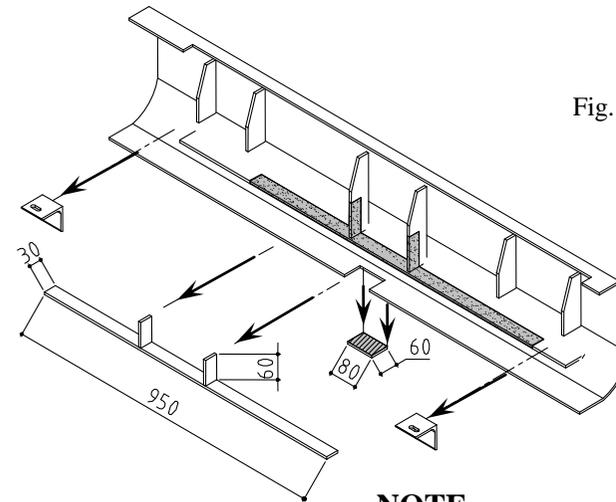

Fig. 2
2. Angle bar I (pos. 6) put underneath to left chassis member and fix loosely using bolts M12x1,25x35mm (pos. 10), next to inside of the chassis member put left bracket (pos. 5) and fix by one bolt M12x1,25x35mm (pos. 10) and two bolts M10x35mm (pos. 9) with angle bar (pos. 6)- loosely.
3. Angle bar II (pos. 7) put underneath to right chassis member and fix loosely using bolt M12x1,25x35mm (pos. 10), next to inside of the chassis member put right bracket (pos. 4) and fix by one bolt M12x1,25x35mm (pos. 10) and two bolts M10x35mm (pos. 9).
4. Between installed brackets put main bar of the towing hitch (pos. 1) and fix it by bolts M12x40mm (pos. 8- see figure).
6. Reassemble bumper after cut out his fragments – see figure 2.
7. Fix body of the automat and place tow-ball according to supplied instruction. Note! Remember to place socket plate (pos. 3) as shown on the drawing 1.